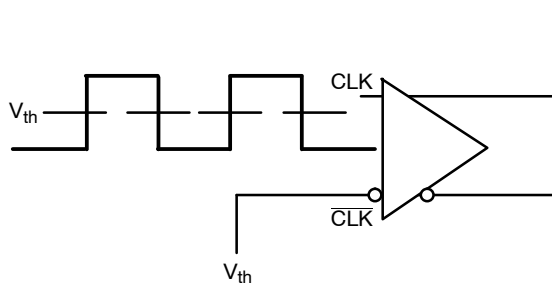

Figure 4. Single-Ended Interconnect V_{th} Reference Voltage
DIFFERENTIAL INPUT DRIVEN SINGLE – ENDED (See Figures 4 and 5)
HCSL OUTPUTS (Figure 4)
6. V_{th} is applied to the complementary input when operating in single ended mode per Figure 4.